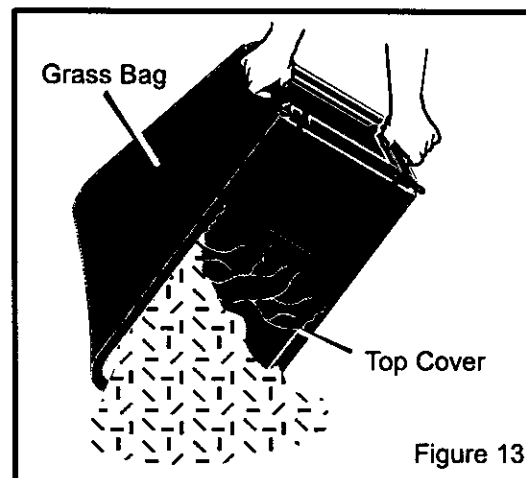

Figure 13
3. Open the top cover (Figure 13). Empty the grass from the grass bag.